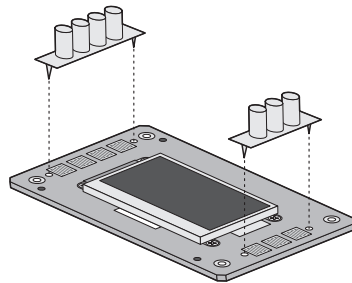

FIGURE 18: Removing/replacing the UIB buttons
6. **If you are removing the UIB to replace it with a new board, remove the UIB buttons from the old UIB (see Figure 18 on page 57).**